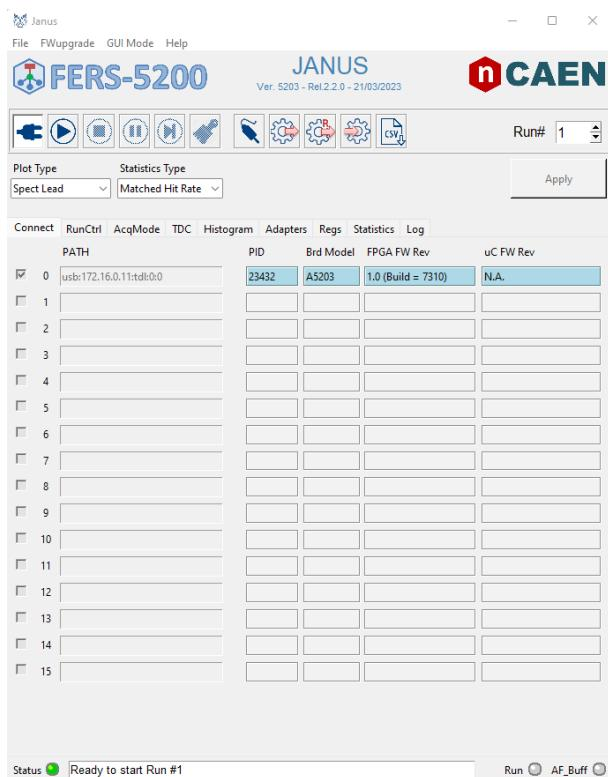

Fig. 8.21: Janus GUI starting interface when the connection is correctly established. Case of A5203 connection.
- "usb:IP:tdl:x:y" (as it is shown in Fig. 8.21), where IP is the IP address for the USB connection to the DT5215, tdl is the type of FERS-5200 board connection to the DT5215, and x and y the link number and board number, respectively.
The connection between the software and the FERS-5200 units, passing via the DT5215, is established as shown in Fig. 8.21 for the case of a A5203 connection.